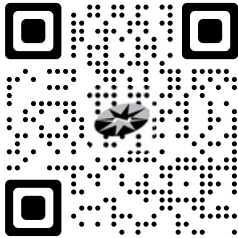

Fig. 1: lift lug location
- Load the empty Novid hot load tank onto the stand using the lift lugs (2) located on top of the tank. (See Fig. 1)